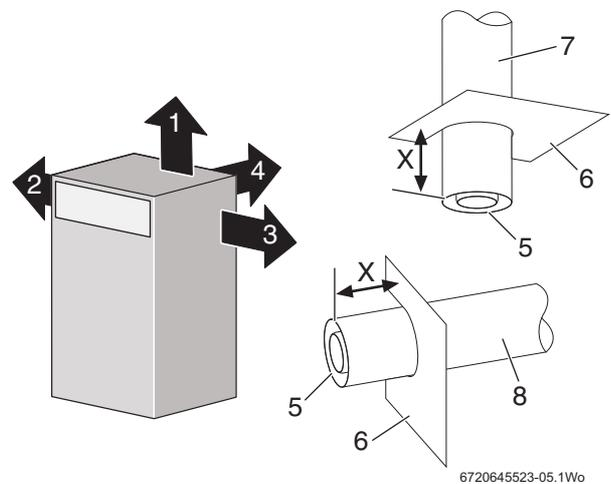

Fig. 10 Fluing options from the boiler
1. Add dimension "X" to the effective flue length (L) to allow the flue to fit to the outlet/elbow inside the boiler casing.
2. Refer to figure 10 and table 7 for dimension X for flue outlet options 1, 2, 3 or 4.
Table 7 Key to figure 10